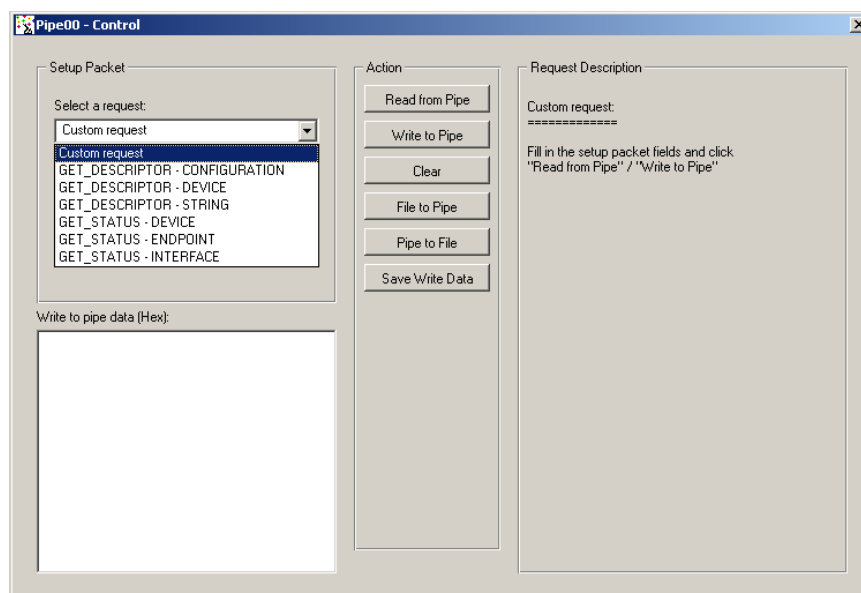

Figure 5.6: USB Request List
- ii. For a control pipe (a bidirectional pipe), click **Read/Write to Pipe**. A new dialog will appear, allowing you to select a standard USB request or define a custom request, as demonstrated in Figure 5.6.